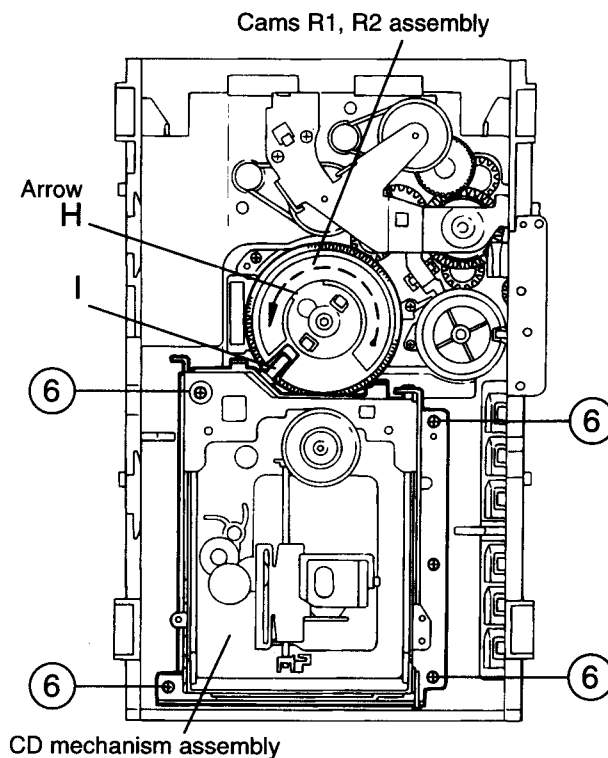

Fig.10
■ Removing the CD mechanism assembly (See Fig.10)
1. While turning the cams R1 and R2 assembly in the arrow direction "H", align the shaft "I" of the CD mechanism assembly to the position shown in Fig.10.